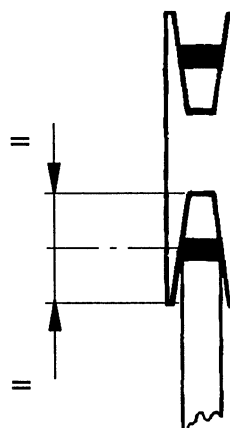

Fig 3
- Remove the cover (1).
- Check the belt (2) for wear and/or damage. Replace as required.
- Position the belt (2) in the middle of the lower belt pulley see fig. 3.